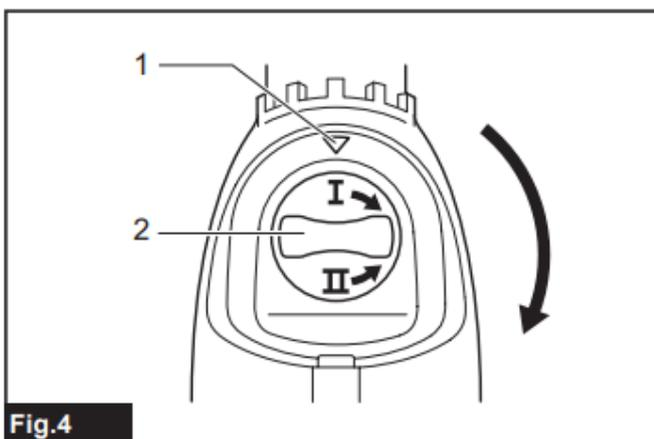

Fig.4
► **Fig.4:** 1. Arrow 2. Speed change knob